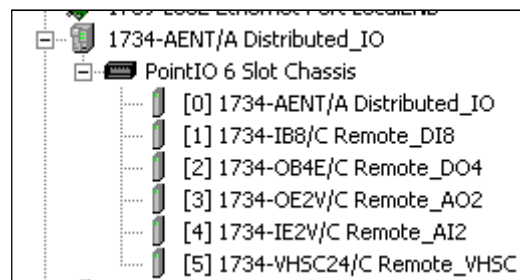

Fig. 7: The branch 1734-AENT/A Distributed_IO of the project window
9) The **Module Properties** dialog window is displayed (see Fig. 7).
If the configuration was setup correctly the branch **1734-AENT/A Distributed_IO** of the project window tree will see as in Fig. 7.